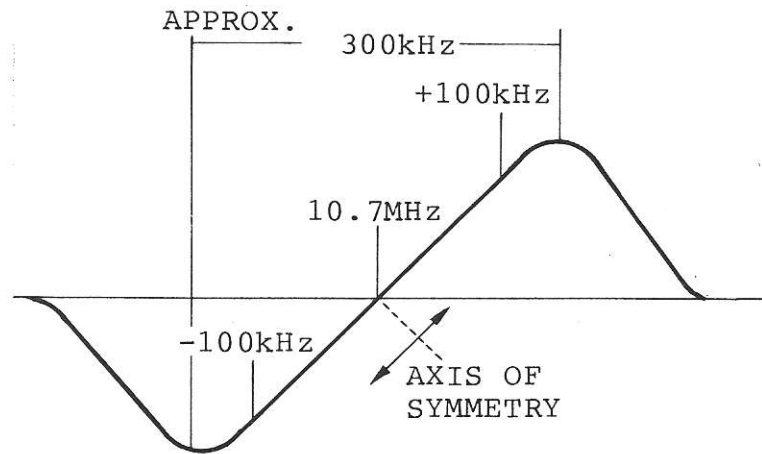

Fig. 4-8 Properly adjusted discriminator circuit.
1. Connect a blocking capacitor, $0.01\mu\text{F}$, between the sweep output cable and the input (base) of the final limiter stage, see (A) in the figure.
3. Adjust coil T-5 so that the 10.7MHz marker is at the center of the S-curve, see Fig. 4-8.